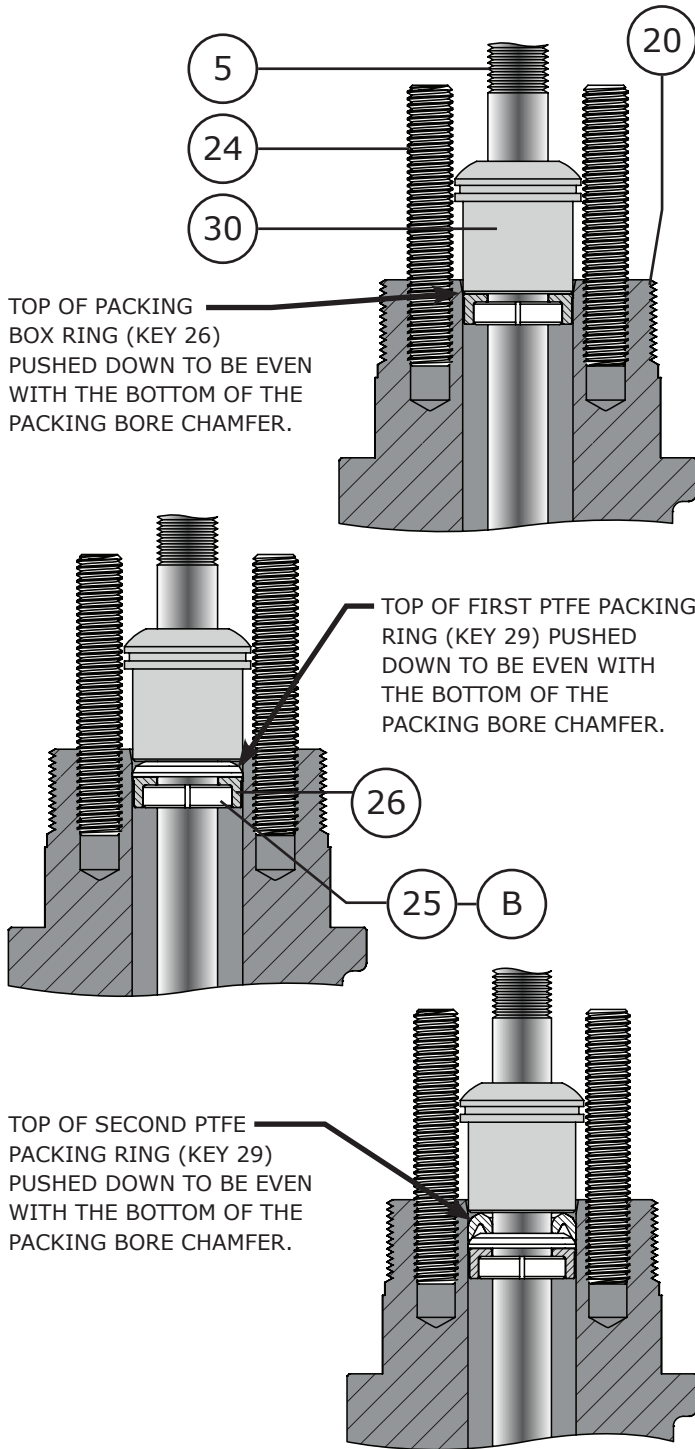
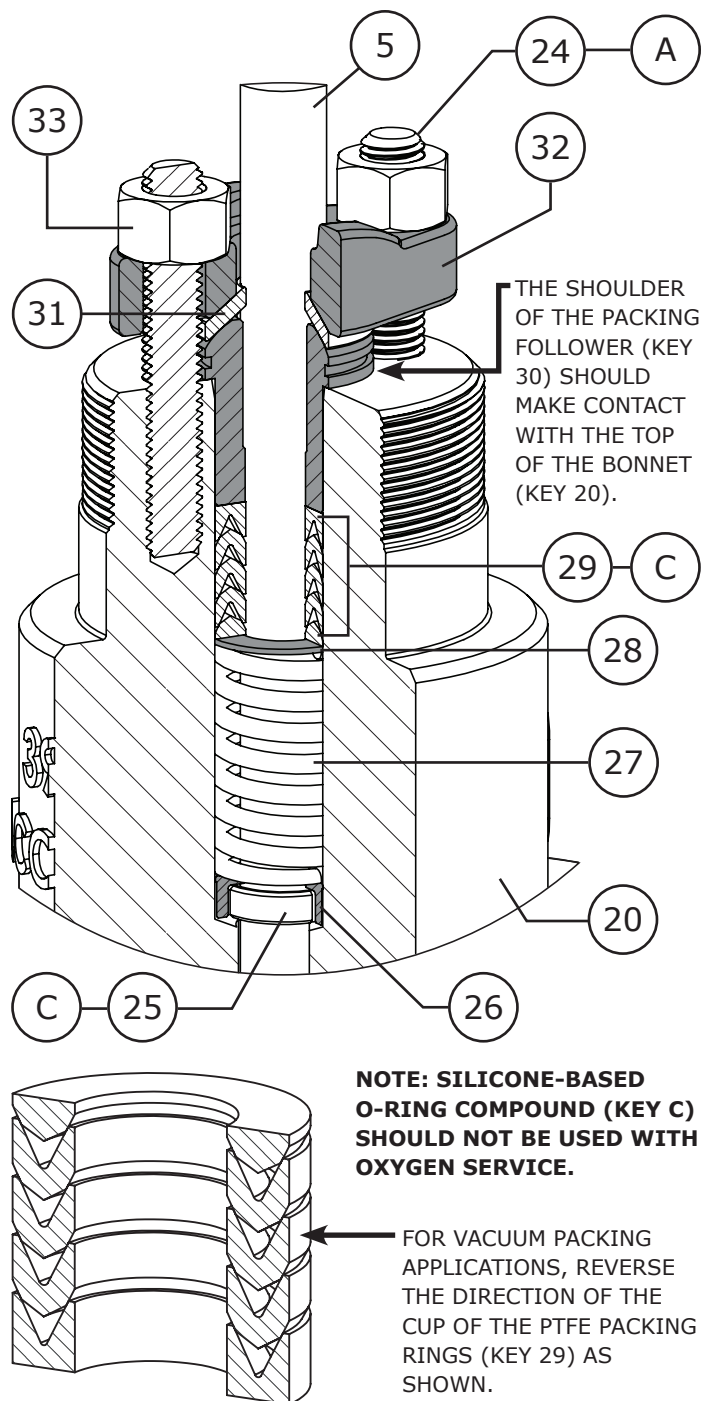

Figure 27 Proper Packing Ring Installation
Figure 28 Single Style Packing Installation Diagram
For Live Loaded packing instructions see the Live Loaded Sliding Stem Packing Manual (Part Number P-LLPS). For other packing arrangements see Figures 28, 30, 31, & 32.
NOTE: To prevent trapping air between packing during installation, it is recommended that packing rings be installed one at a time using the packing follower (Key 30) to push the packing rings in place. Do not force packing rings below the chamfer of the packing bore before adding another ring, packing rings should only be pushed down the thickness of the added ring. Refer to Figure 27.
- 4 Apply silicone-based o-ring compound (Key C) to the PTFE packing rings (Key 29). Install the packing rings one ring at a time (as shown in Figure 27) in the proper order and orientation as shown in Figure 28. **WARNING:** For oxygen service do not apply silicone-based o-ring compound, silicone-based compound in oxygen service applications can cause an explosion.
- 8 Apply anti-seize compound (Key A) to the top threads of the packing studs (Key 24). Thread the packing nuts (Key 33) onto the threads of the packing studs, tighten the packing nuts evenly in an alternating pattern until the shoulder of the packing follower (Key 30) makes contact with the bonnet (Key 20). Refer to Figure 28.
- 2 Apply silicone-based o-ring compound (Key C) to the first set of packing rings (Key 29). Install the packing rings one ring at a time (as shown in Figure 27) in the proper order and orientation as shown in Figure 30. **WARNING:** For oxygen service do not apply silicone-based o-ring compound, silicone-based compounds in oxygen service applications can cause an explosion.
- 4 Apply silicone-based o-ring compound (Key C) to the second set of packing rings (Key 29). Install the packing rings one ring at a time (as shown in Figure 27) in the proper order and orientation as shown in Figure 30. **WARNING:** For oxygen service do not apply silicone-based o-ring compound, silicone-based compounds in oxygen service applications can cause an explosion.
- 4 Install 1 ring of graphite filament (Key 35) as shown in Figures 27 & 31. **NOTE:** Graphite filament is a wound material with a split that typically looks like rope.
- 5 Install 1 ring of graphite ribbon (Key 36) as shown in Figure 27 & 31. **NOTE:** Graphite ribbon is compressed into rings and not split like the graphite filament.
- 6 Install the remainder of the graphite filament (Key 35) and graphite ribbon (Key 36) one at a time (as shown in Figure 27) in the proper order and orientation as shown in Figure 31.